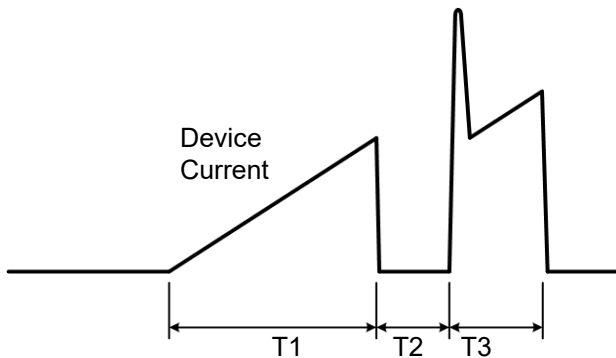

Figure 1: Double pulse waveform
A DPT is a tool which enables a power switch to be turned on and off at different current levels as shown in figure 1. By adjusting the switching times T1, T2 and T3 the turn on and turn off waveforms of the Device Under Test (DUT) can be controlled and measured over the full range of operating conditions.
- It should limit the di/dt so that the switching times (T1, T2 and T3 in figure 1) are not less than 10  $\mu$ s, to ensure the devices have fully turned on or off.